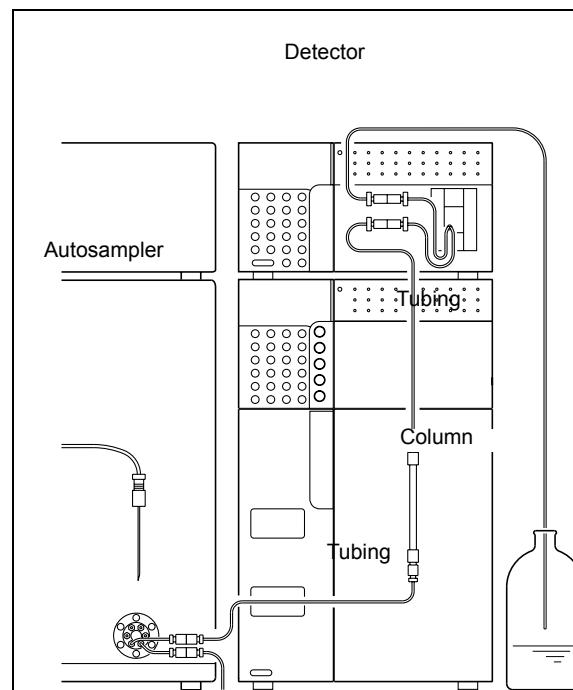

Fig. 7.10
- 4** When cleaning is finished, pour mobile phase (A: water, B: methanol) into the reservoir, and reconnect the column with the LC system ("Fig. 7.10").